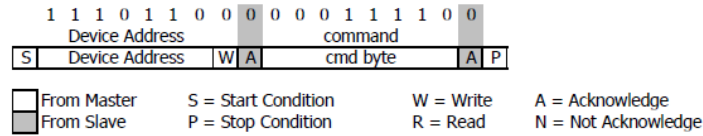

Figure 3: Material from datasheet.
7. [2 pts.] Based on Figure 3, which protocol does this sensor support?